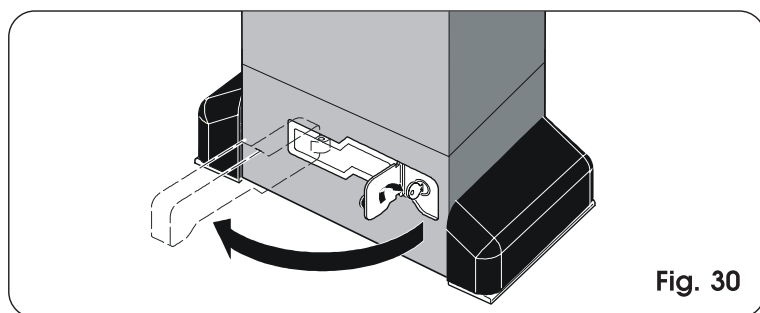

Fig. 30
- 3) Turn the key clockwise and pull the release lever as shown in Fig. 30.